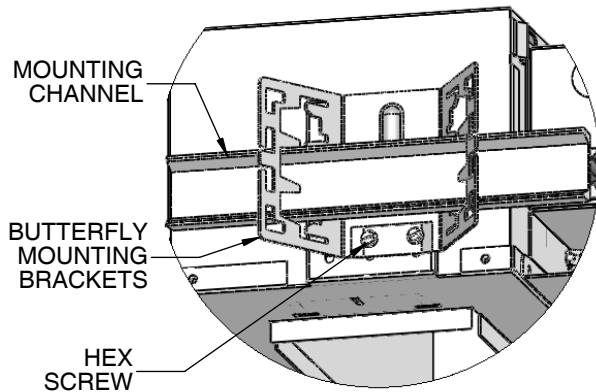

Figure 1
2. Fixture comes equipped with universal BUTTERFLY MOUNTING BRACKETS that can take common 1" or 1-1/2" black iron or galvanized MOUNTING CHANNELS (supplied by others). See Fig 1.